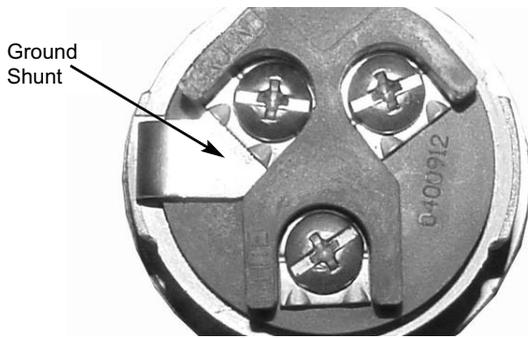

Figure 4
3. Terminate conductors. Terminals are identified as "Ground" and Neutral ("White"). See Figure 4.